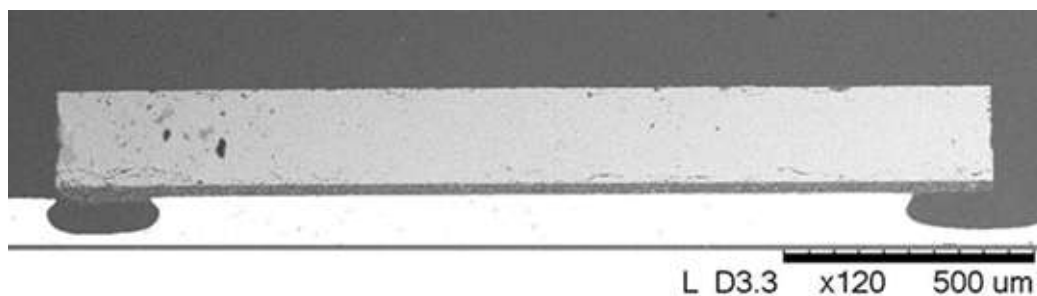

Fig. 3. No DAF sagging were observed
- After DSC test of the new DAF material with low glass transition temperature, its showed a peak temperature of 56°C with 1.4J/g heat flow, and this time, there are no DAF sagging observed in Fig. 3